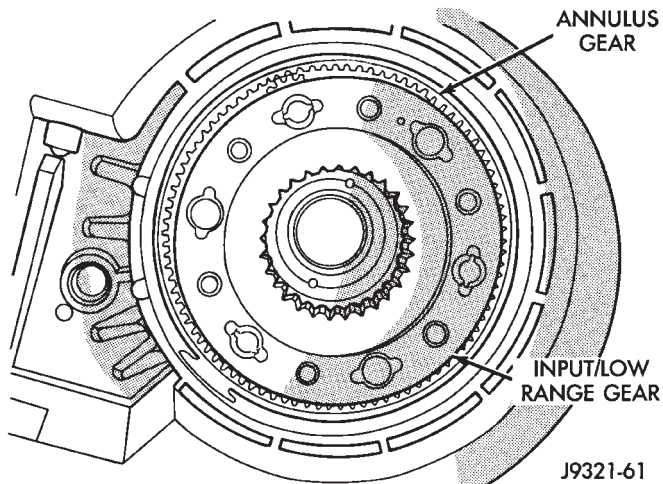

Fig. 57 Input/Low Range Gear Installation
(1) Align and install low range/input gear assembly in front case (Fig. 57). Be sure low range gear pinions are engaged in annulus gear and that input gear shaft is fully seated in front bearing.